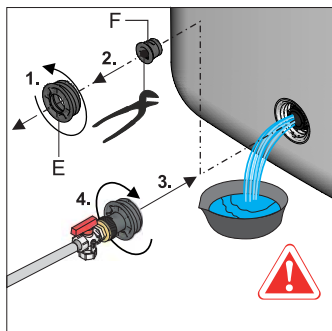

Fig. 6-5 Working steps 4 + 5
- Unscrew the threaded piece (fig. 6-5, item E) at the filling and draining connection, remove the plug (fig. 6-5, item F) and immediately screw in the pre-assembled hose connector (fig. 6-5, item C) back into the filling and draining connection.